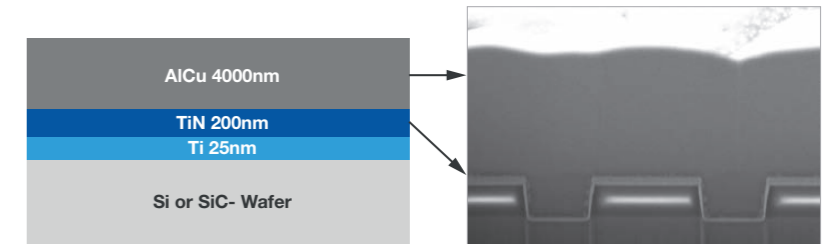

Figure 2b: Typical backside process
Nevertheless, the new challenges imposed by the demand for higher frequency, wider bandwidth and better power handling actually put constraints on each other. To utilize the piezoelectric coefficient along the c-axis ( $d_{33}$ ) of the Al1-xScxN Wurtzite lattice for filtering, a preferential grain orientation, the c-axis  $\langle 0002 \rangle$  perpendicular to the film surface, is required for the piezo-layer. A measure of how well the Al1-xScxN grains are aligned is the rocking curve (RC) of the  $\langle 0002 \rangle$  peak in the X-ray diffractometry. Generally speaking, a narrower RC FWHM (full width at half maximum) results in a higher  $kt^2$  and  $Q$  factor. However, reducing the film thickness usually leads to broader RC FWHM (Figure 2b). Additionally, thinner films tend to show more compressive stress (Figure 2c) due to the lowered wafer temperature during deposition. This again deteriorates the performance of thin films for high frequency